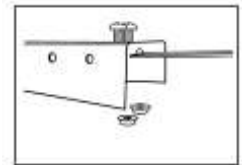

fig. 8
The modules have to be assembled in pairs, and have to be united between them by a strap. You have to screw the strap to the end of the piece (4) using the 5mm x 15mm screws and 6mm nuts (10), fig.8.